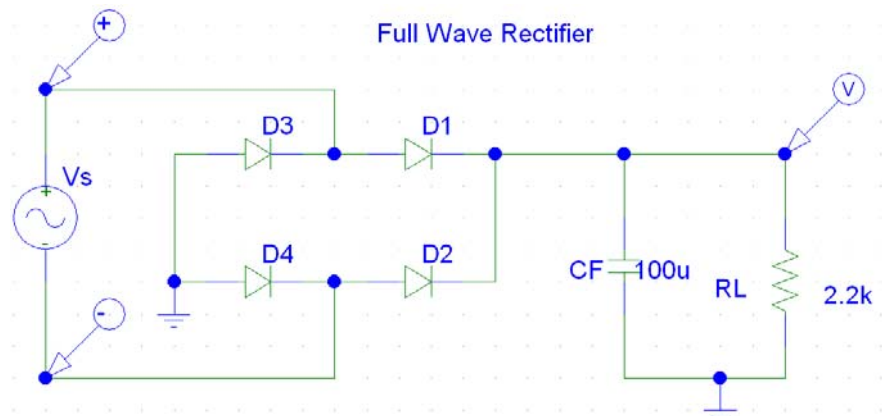
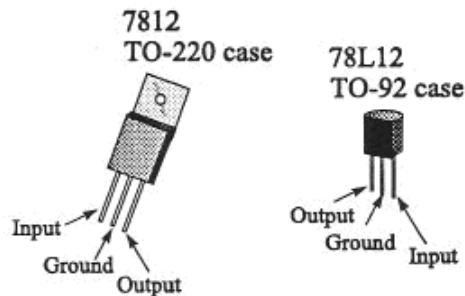

Figure 2. A Full wave rectifier with a capacitor.
Figure 3. Regulator 78L12 will be used in the lab.
3. Q2) Predict $V_{out(DC)}$, $V_r(pp)$ for the circuit shown in Figure 2 by using the predicted output voltage $V_{out(p)}$ from Q1). Fill them in Table 2 accordingly.
- Connect and solder the 100 μ F (electrolytic) capacitor in parallel with the load resistor as shown in Figure 2. Measure $V_{out}(DC)$, $V_r(pp)$ the peak-to-peak ripple voltage, and the ripple frequency by using the oscilloscope. Fill Table 2 with measured values.
- (Pspice Simulation) Perform Pspice simulation for your report preparation. In your report, compare and discuss the simulation results and measurements from the hardware experiment. Simulate an open diode (or a faulty diode) in the bridge by removing one diode from the circuit. Investigate the effect of the load resistor on the ripple voltage by connecting a second 2.2 K-ohm resistor in parallel with R_L in Figure 3. Observe the effects on the ripple voltage and ripple frequency.
6. Add the circuit with a 78L12 regulator to provide +12V regulated output voltage as shown in Figure 3. It is a three terminal regulator and 'L' means small power option which can deliver over 100mA with '12' for 12V output. If you need more output current such as 1.0A then you need to use 7812 regulator. Disconnect (or cut off) the resistor from the circuit in Figure 2, and then add 78L12 regulator with additional 0.01 μ F capacitor (this is used for the regulator to operate properly). In the output load side, connect one resistor in series with a LED to indicate the presence of power. (To increase the brightness of the LED, you can use smaller series resistance) Measure the output voltage and ripple and compare them with the circuit without the regulator.